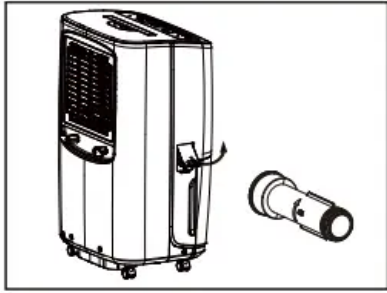

fig. 4
a. Open the drain cover at the side of the unit, so the drainage connector could be found inside. (fig.1) Take out drainage adapter from the top of the styrofoam packaging. (fig.4)